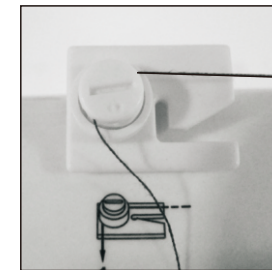

Fig.12
2. Guide the thread through the bobbin winder tension disk on the upper side of the machine (Fig.12)